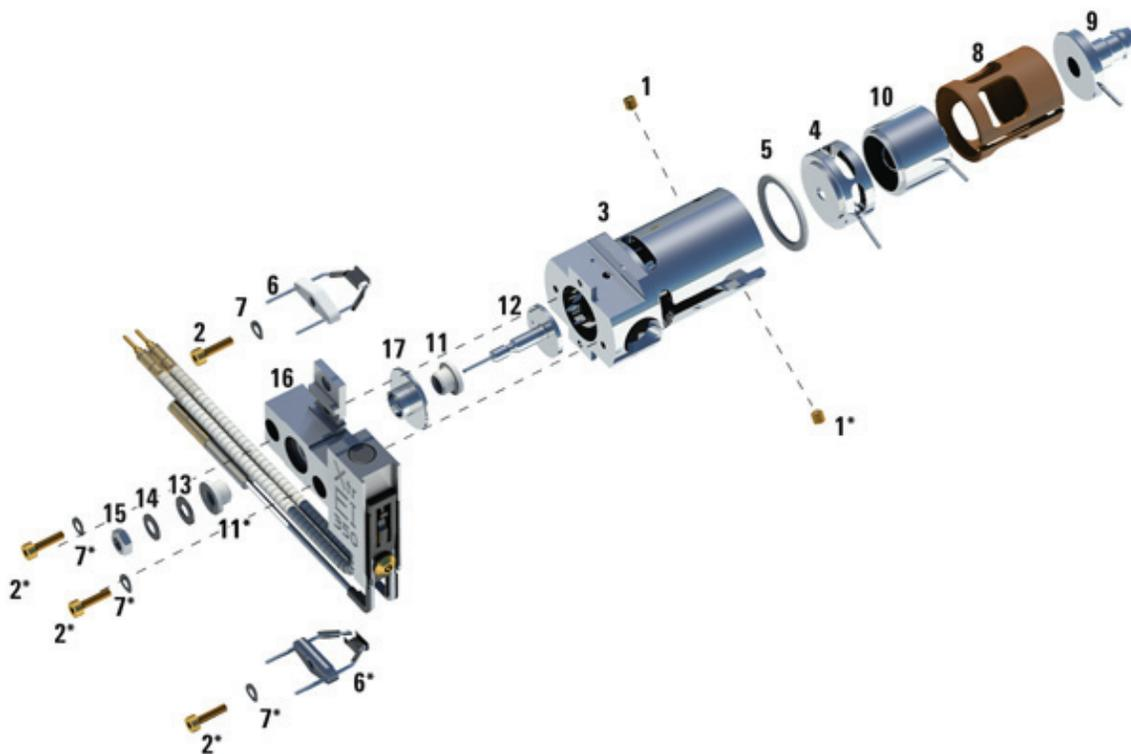

Figure 54. Disassembling the EI HydroInert source
Refer to the exploded parts view and the HydroInert parts list while using this procedure. (See **Figure 54** and **Table 18** on page 179.)
- 3 Separate the source heater assembly from the source body by removing the two screws. The source heater assembly includes the source heater, repeller, and related parts. (See **Figure 54** and **Table 18** on page 179.)
- 4 Disassemble the repeller assembly by removing the repeller nut, washers, ceramic insulators and repeller. (See **Figure 54** on page 179.)
- 6 Pull the lenses out of the source body and separate the lens insulator, ion focus lens, extractor lens, extractor lens insulator, and extended entrance lens. (See **Figure 54** on page 179.)
**Table 18** Parts list for EI HydroInert source (Figure 54)
Table 18 Parts list for EI HydrolInert source (Figure 54) (continued)